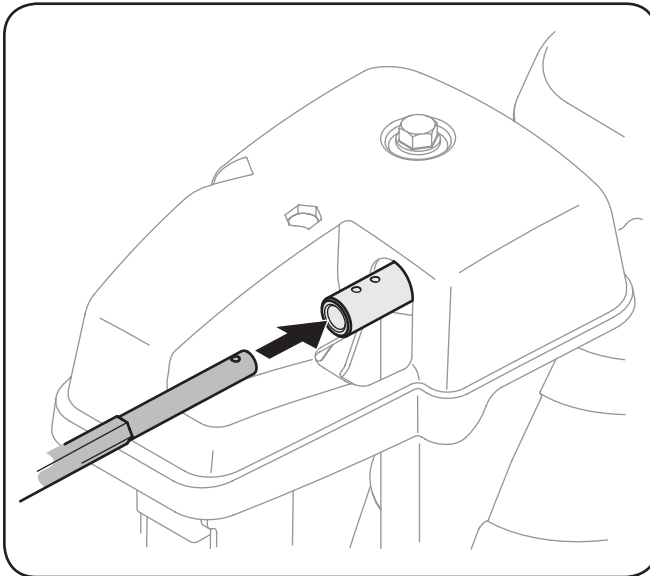

Figure 3-4
2. Insert chute control rod into chute control head. Push rod as far into chute control head as possible, keeping the holes in the rod pointing upward. See Fig. 3-4.